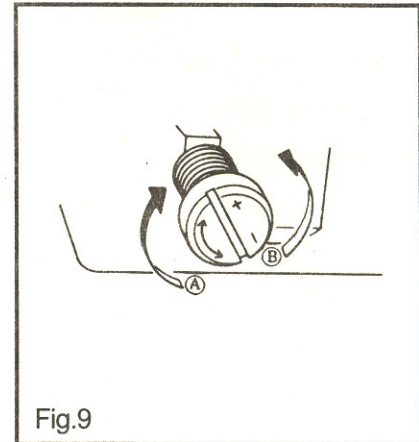

Fig.9
c. Adjusting the oil of rotary hook (Fig.9)